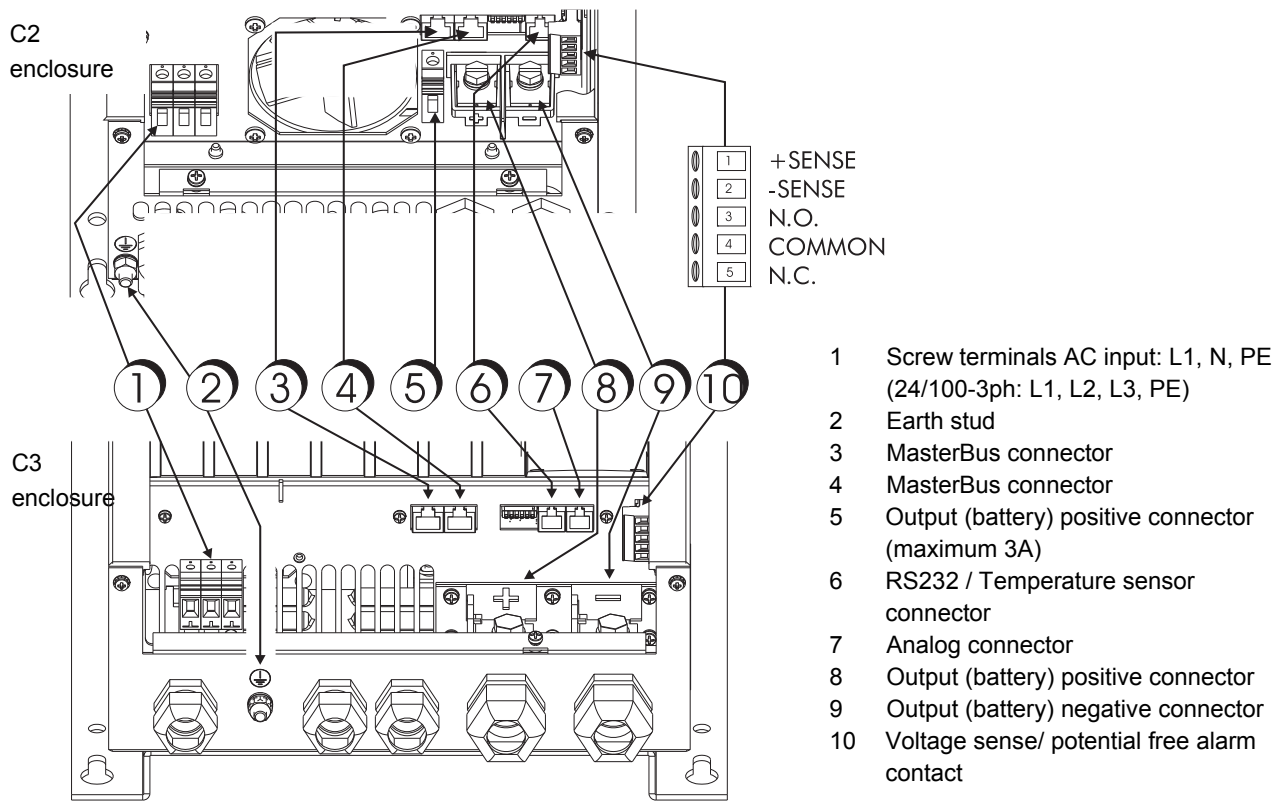

Figure 7: Overview connections Mass Charger
- 4 Compensate the voltage drop over the battery isolator by changing the setting of dip switch 4 (see fig. 7).
The standard temperature sensor is provided with 6 m cable and a double-sided tape for easy installation. Determine the warmest place on the battery set and make it clean and grease free. Remove the piece of paper from the tape and stick the sensor on the battery. Plug the modular cable into a terminal at the right of the Mass Charger (see fig. 7). For the C3 enclosure (refer to specifications) both "RS232" and "analog" are suitable. It is not necessary to shorten the cable. When you want to shorten it anyway please notice the polarity of the plug and use the old connector as an example.
To shorten the charge time substantially, the battery cable losses can be compensated by using the sense function. Use 0,75 mm², preferably red and black wire and secure these with fuses of 2A slow blow. Connect the wires with the two upper terminals of the green connector at the right side of the cabinet (see fig. 7). Pay good attention to the polarity of the wires, red on +S and black on -S. Now connect the other side of the wires: black on the minus of the battery and red on the battery side of the Mass Charger fuse.
The battery charger is equipped with a potential free contacts alarm relay, see figure 7. The alarm function has two modes: standard (factory setting) and DC alarm mode (continuous mode).
- 2 mm flat blade screw driver for the sense terminal (figure 7 point 10).